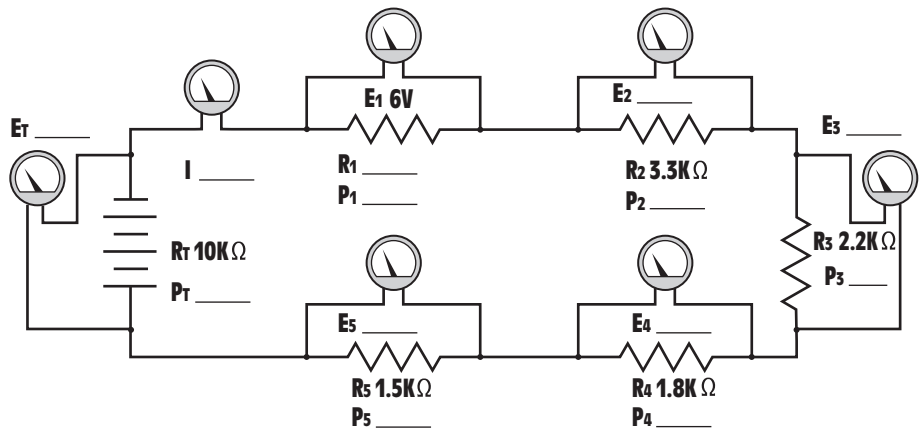

Figure 5-27 Practice Problem 2.
2. Find the missing values in the circuit shown in *Figure 5-27*.